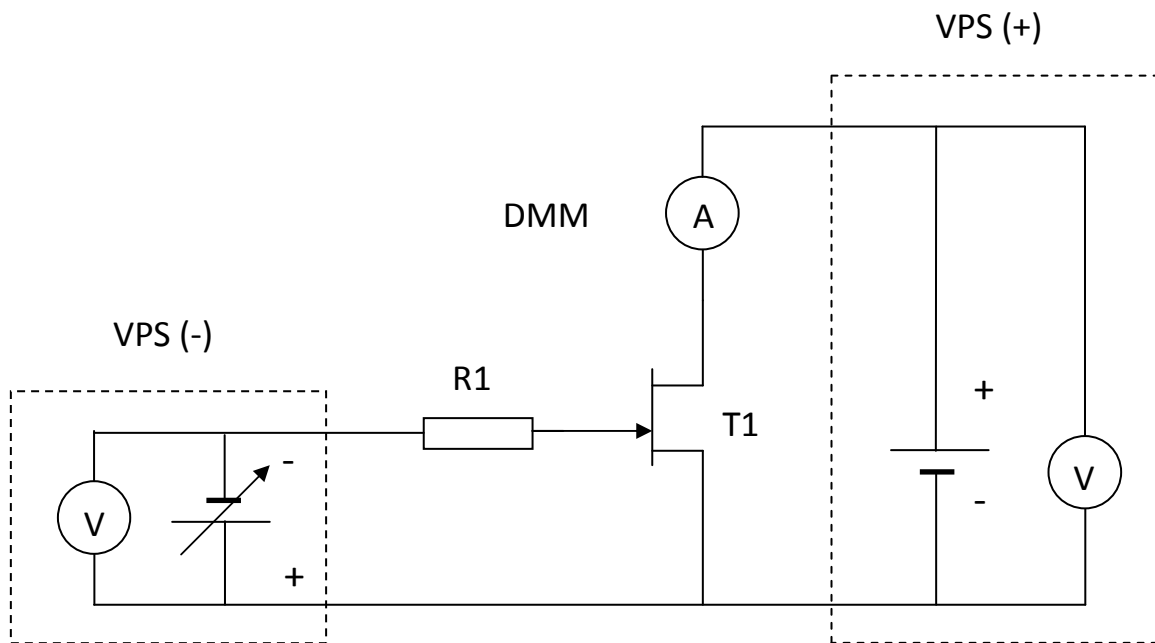
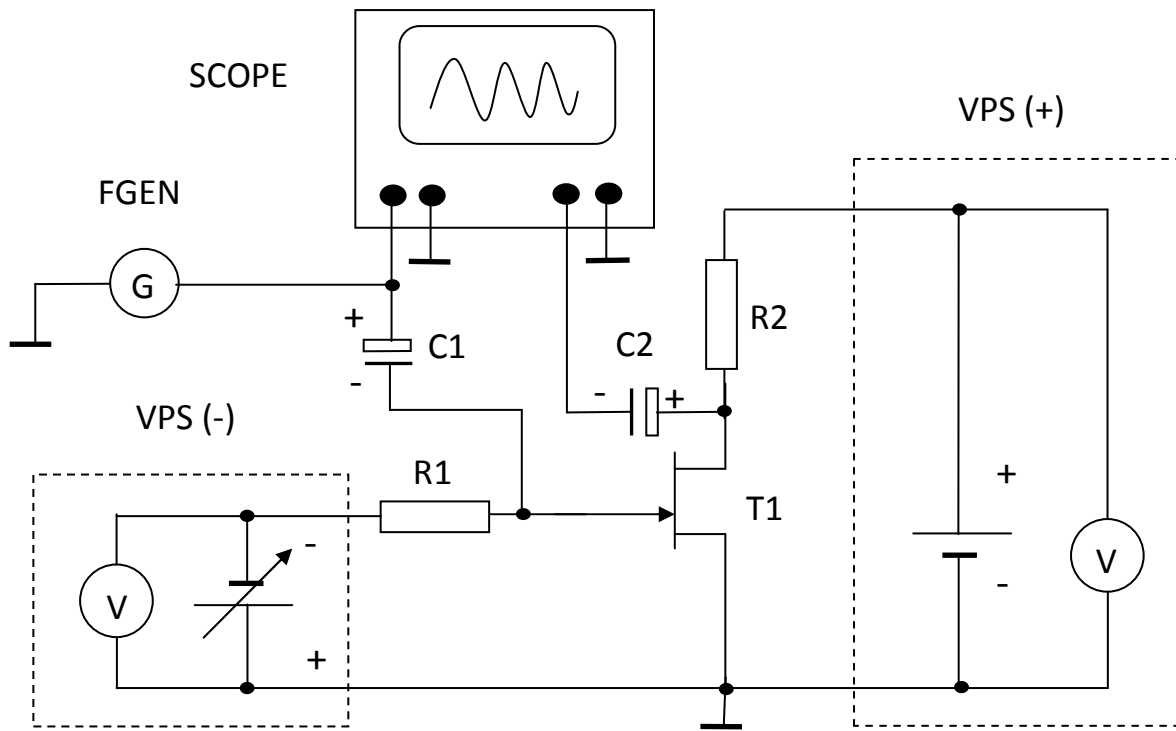

Fig. 3.1. Scheme of measurement setup used to determine transfer (transitional) characteristics.
Fig. 3.3 Scheme of measurement setup used to determine transconductance by means of small-signal (dynamic) method.
3.1. Draw the output and transitional characteristics of Junction Field-Effect Transistor (j-FET). Present a method for practical verification of characteristics with the use of NI ELVIS Prototyping Board (ELVIS). Analyze the circuit presented in Fig. 3.1, 3.2, 3.3 and 3.4. What are the conditions for proper determination of JFET transconductance and output resistance values with the use of setups presented in Fig. 3.3 and 3.4?
- 4.1. Arrange the measurement setup from Fig.3.1. Use virtual multimeter (DMM) to measure the current. Value of the  $R1=10\text{ k}\Omega$ . For the fixed  $U_{DS}$  voltage, from the range 6-8 V, (current limitation +20 mA)(+VPS), change  $U_{GS}$ , from 0 V with the step 0.2 V (-VPS) until the pinch-off voltage is obtained (despite the presence of  $U_{DS}$  polarization, current stops flowing through the transistor). Repeat measurements for the  $U_{DS}$  from the range 1-2 V. Note particular values of current  $I_D$  of j-FET transistor obtained for different values of voltage  $U_{GS}$ . Draw the transfer (transitional) characteristics for two values of  $U_{DS}$  voltage, for which measurements have been performed. Determine values of  $I_{DSS}$  and  $U_p$ .
- 4.3. Arrange the measurement setup from Fig.3.3. Values of  $R1=10\text{ k}\Omega$ ,  $R2=100\text{ }\Omega$ ,  $C1=33\text{ }\mu\text{F}$ ,  $C2=33\text{ }\mu\text{F}$ . Value of  $U_{DS}$  (+VPS) is the same as in the first part of 4.1,  $U_{GS}$  should be changed within range of  $U_p-0\text{ V}$  (-VPS). Use a triangle waveform voltage signal having frequency of 1kHz and peak-to-peak value equal 100 mV generated by (FGEN). Measure by means of oscilloscope (SCOPE) the peak-to-peak value of alternating voltage  $U_{ds}$  (amplitude of alternating voltage), for a few values of  $U_{GS}$  in the range:  $U_p < U_{GS} < 0\text{ V}$ . Determine the values of j-FET dynamic transconductance, which correspond to the values of  $U_{GS}$ . Compare the obtained results with the values determined with the use of transfer characteristic for the corresponding  $U_{DS}$  values. ATTENTION: „-” of electrolytic capacitor (shorter terminal) needs to be connected to a lower potential (-). In order to connect the generator, the direct output on the prototyping board (FGEN) should be used. To connect oscilloscope, AI 0-AI 7 inputs need to be used.